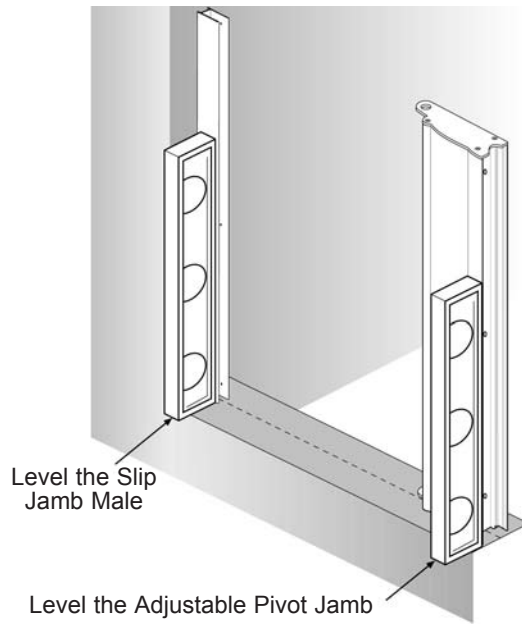

Figure 3
E. Align the center of the Pivot Bushing (Bottom) (#14) with the mark on the shower dam. Use a Level against the Adjustable Pivot Jamb (#1) to align it straight up and down (See Figure 3). Using a Pencil, mark the wall through each of the three pre-drilled holes in the side of the Adjustable Pivot Jamb (#1). Remove the Adjustable Pivot Jamb (#1).
B. Place the Slip Jamb Male (#3) at the centerline mark on the shower dam opposite the Adjustable Pivot Jamb (#1) as shown in Figure 3. Use the Level to align the Slip Jamb Male (#3) straight up and down. Use the pencil tip in each of the pre-drilled holes in the Slip Jamb Male (#3) to mark the wall. Set the Slip Jamb Male (#3) aside.